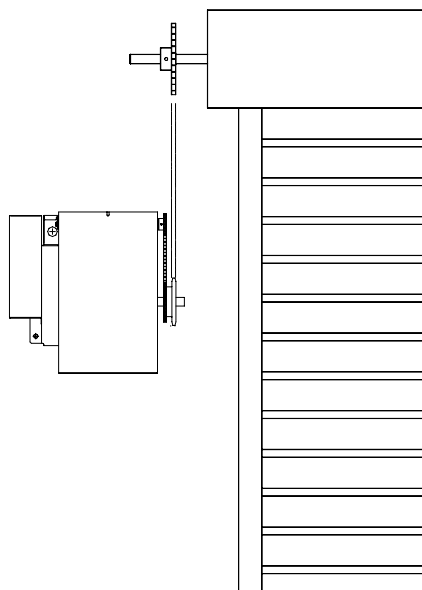

FIGURE 3
5. Align sprockets and secure, (see Figure 3).